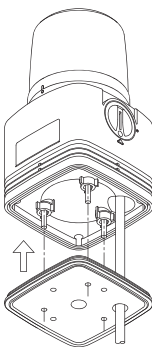

Figure 1:
- ① Attach the rubber mounting to the product as shown in “figure 1: Rubber Mounting Attachment”.